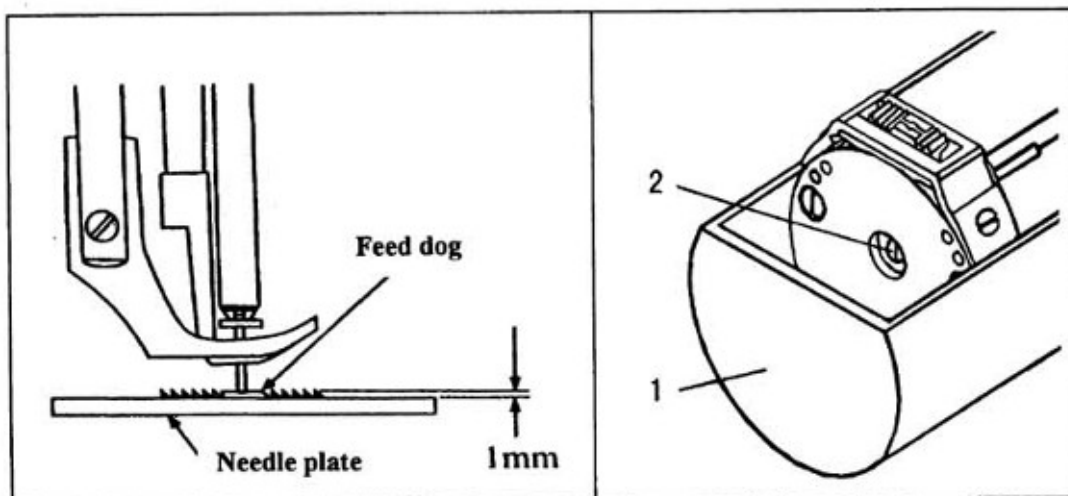

Fig.16
14. ADJUSTING THE HEIGHT OF THE FEED DOG (Fig.16)